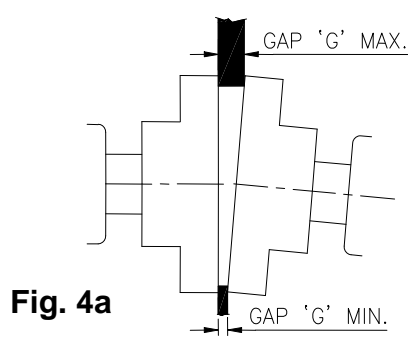

Fig. 4a
- **Using feeler gauge (fig 4a):** Measure gap 'G' at 4 places 90° apart without rotating shafts. The difference in maximum & minimum gap will be the Total Indicated Reading (TIR), which will be the angular misalignment present (Refer Table 'C1/C3' for allowable TIR values in mm).